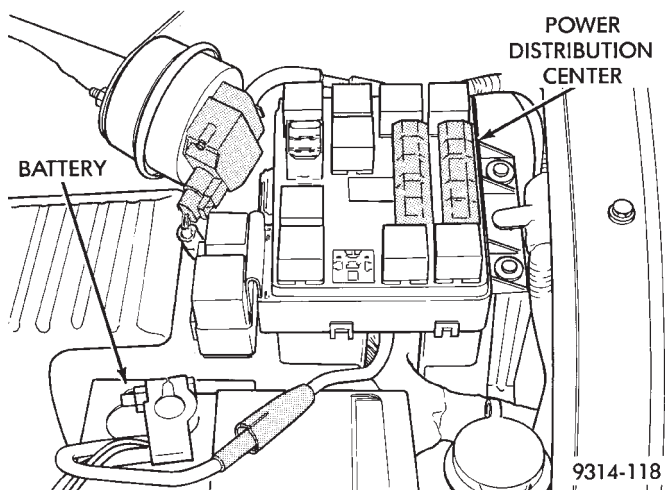

Fig. 34 Power Distribution Center
(1) Remove the Power Distribution Center (PDC) cover. Check for blown fuses. Ensure all relays are properly installed (Fig. 34).